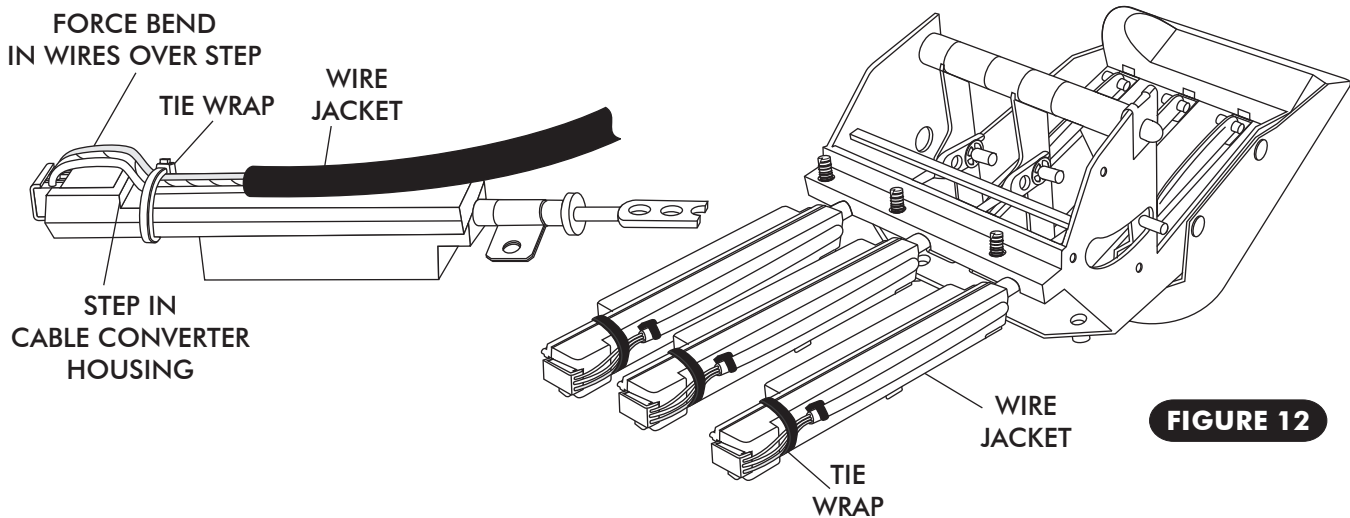

FIGURE 12
- ONCE WIRES ARE CORRECTLY PLUGGED INTO CABLE CONVERTER ASSEMBLY, SECURE WIRES TO THE CABLE CONVERTER ASSEMBLY USING TIE WRAPS (SUPPLIED). SEE FIGURE 12 BELOW. THE TIE WRAP MUST BE LOCATED BETWEEN THE END OF THE WIRE JACKET AND THE STEP IN THE CABLE CONVERTER HOUSING FORCING A BEND IN EACH WIRE AS THEY PASS OVER THE STEP IN THE SLIDE POT HOUSING. HEAD OF TIE WRAP MUST FALL ON EDGE OF HOUSING AS SHOWN TO REMAIN TIGHT. ENSURE THAT THE TIE WRAPS ARE SNUG ENOUGH THAT THE WIRES CANNOT MOVE. SEE FIGURE 12.